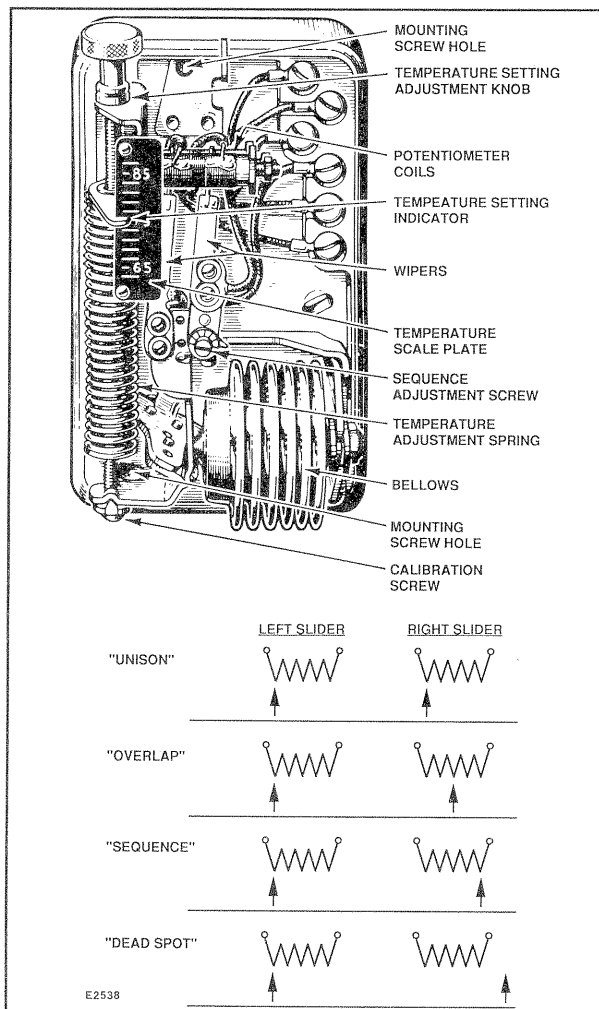

FIG. 5—INTERNAL VIEW OF T92E (with potentiometer cover removed).
7. Push the adjustment knob into place in its socket at the top of the thermostat (Fig. 5); it may be necessary to squeeze the knob shaft slightly with pliers.
The thermostat is adjusted by turning the temperature setting adjustment knob at the top of the cover (Fig. 5).
The temperature setting indicator (see Fig. 5) is shipped at the low end of the proportioning range. Turn the setting knob so the indicator is at the desired minimum room temperature.
The T92E is factory set for unison operation. The slider contact-finger of the front potentiometer can be adjusted to lag behind the slider contact-finger of the rear potentiometer as the temperature rises. If one motor is to lag behind the other, set the sequence adjustment screw as described below (see Fig. 5). The right wiper (slider contact-finger) of the front potentiometer (top coil) can be adjusted to lag behind the left wiper (slider contact-finger) of the rear potentiometer (bottom coil) as the temperature rises. To sequence motors, turn the sequence adjustment screw (refer to Fig. 5) 90 to 180 degrees counterclockwise depending on the amount of lag desired between motors.
1. Move the temperature setting indicator a few degrees *below* room temperature by turning the temperature setting adjustment knob (Fig. 5). In a heating application, the valve or damper should be driven closed to cut off heating; for cooling, it should be driven open. If the valve or damper is driven in the opposite direction, interchange the wires at the B and W terminals on the motor.